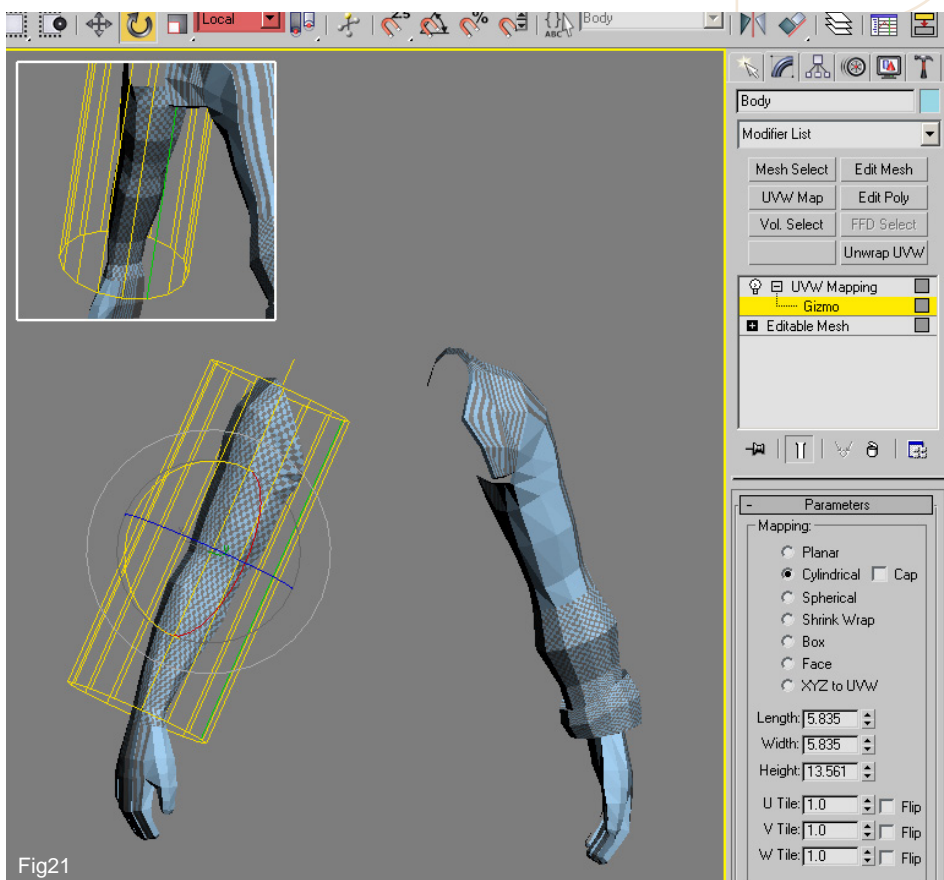

Fig21
21. Now it is on to the arms using the same procedure again really. In Fig 21 you can see a cylindrical map being applied to the left arm. It runs from a line at the top of the shoulder down to the wrist. You can see that I have rotated the gizmo to follow the orientation of the arm using its local co-ordinates (highlighted in red along the main tool bar). You will also notice in the inset that I have positioned the green seam line on the inside of the arm in a less conspicuous place. When you select new groups of Poly's you will automatically be creating a seam line along the boundary at which the selection ends and so it is important to think about where to place these. Adhere to natural seams in order to ease the texturing process such as the top of the trousers and edge of the armour but other than that decide on where they will be least visible.